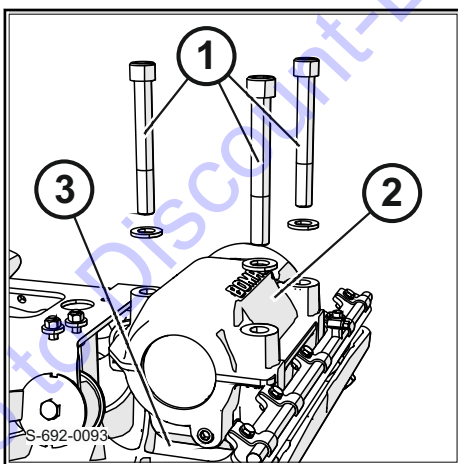

Fig. 85
3. Position the screws (1) ↪ Fig. 85 with washers.